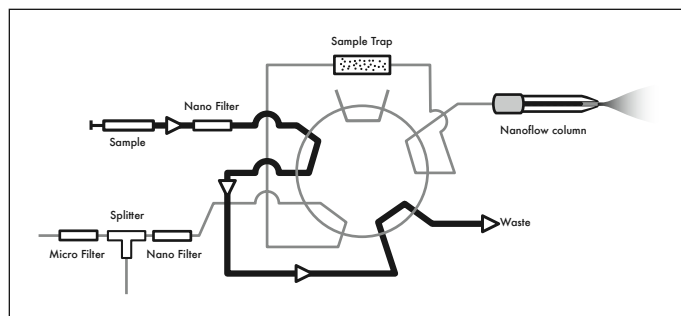

FIGURE 4 Loading the sample loop (valve in Position 1)
- 1) With the valve configured in Position 1, load the sample into the sample loop (Figure 4).